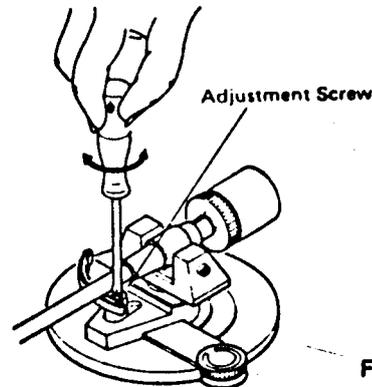

Fig. 11
Adjust the height of tonearm lifter with the adjustment screw so that the distance between the stylus tip and the surface of record is about 6mm when the stylus is elevated. Turn the height adjustment screw clockwise to lower, and counterclockwise to raise the tonearm lifter level. (See Fig. 11.)
## 6-(5) Tracking Force Adjustment (Fig.11)